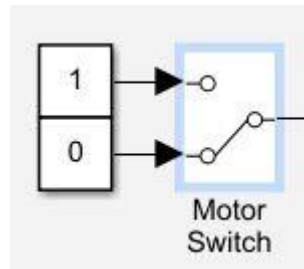

Figure 3. Motor Switch set to off in the QDrone IO check model.
6. At the root level in the model, ensure the Motor Switch is set to 0. (Figure 3)